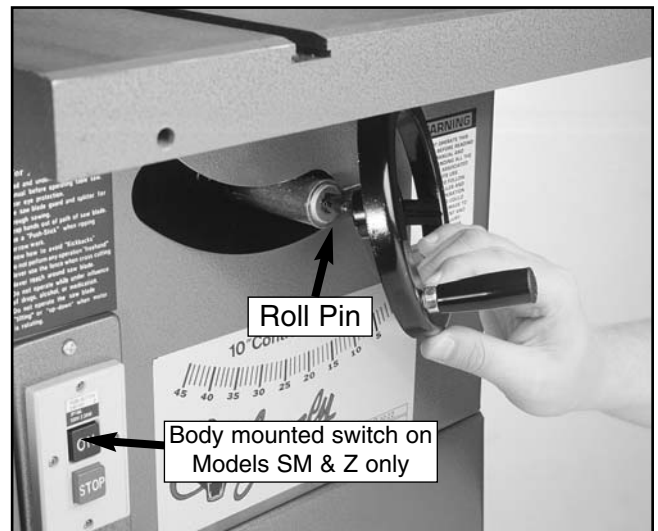

Figure 14. Mounting the handwheels.
- The slots in the handwheel hole will engage with the roll pin on the shaft as shown in **Figure 14**.